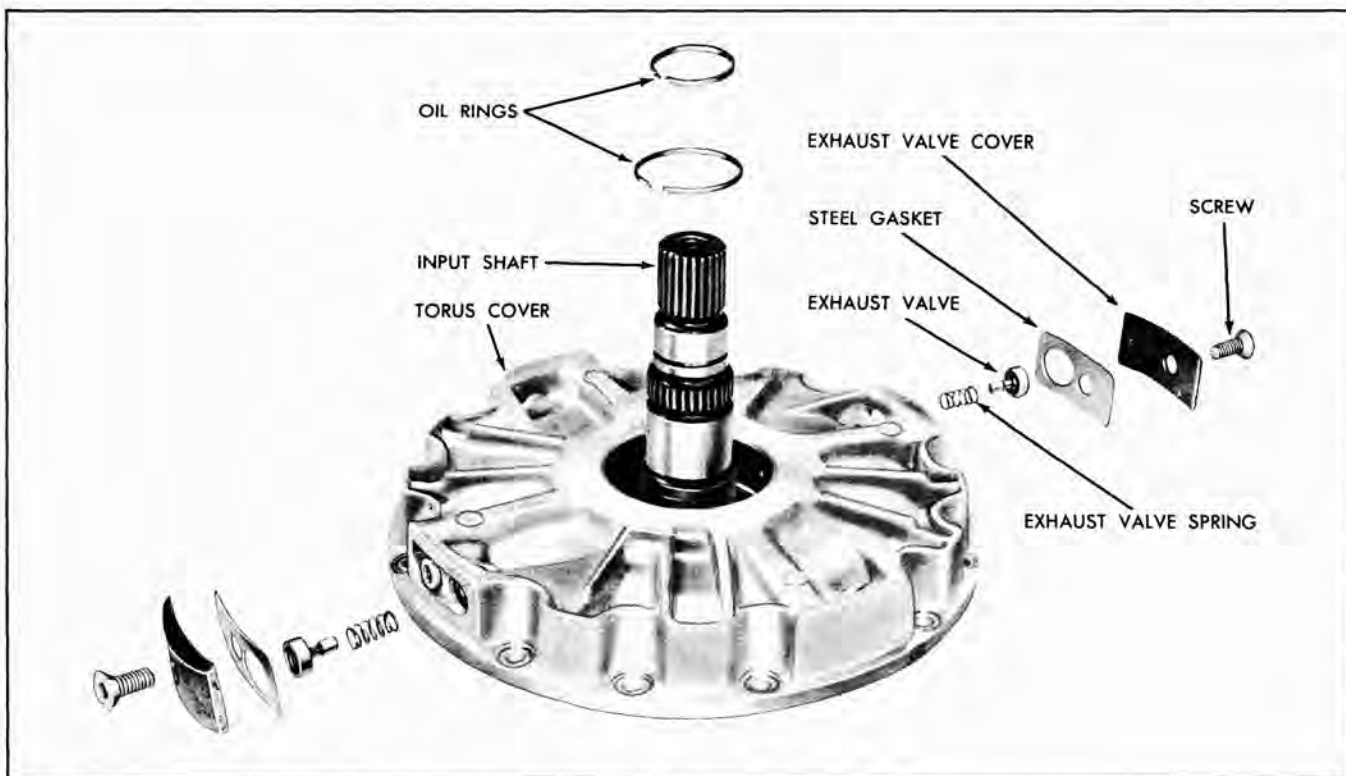

Fig. 78 Torus Cover—Exploded
1. Inspect and remove if necessary, 2 hook type oil rings from input shaft (Fig. 78).